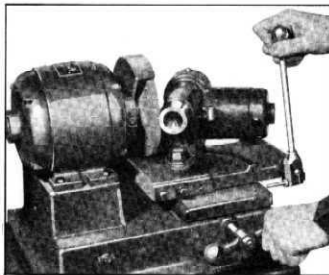

Fig. 17—Valve Refacing Machine
1. If necessary, dress the valve refacing machine grinding wheel to make sure it is smooth and true. Set the chuck at the 30° mark for grinding 30° valve seats for both intake and exhaust valves of 1949 models and intake valves only of 1950-53 models. Set chuck at 45° mark for grinding 45° seats on exhaust valves of all 1950-53 models (fig. 17).